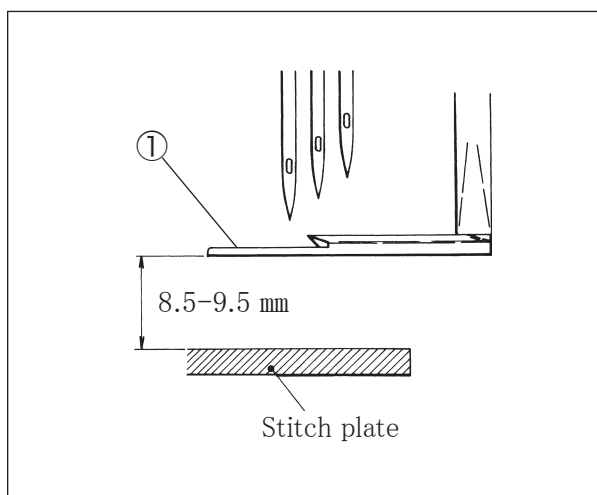

Fig. 6-13 VE2700-8 class
- (4) Make the distance between the surface of the stitch plate and the bottom of the spreader ① as in Figs. 6-13, 6-14. Then tighten the screw ③ securely.